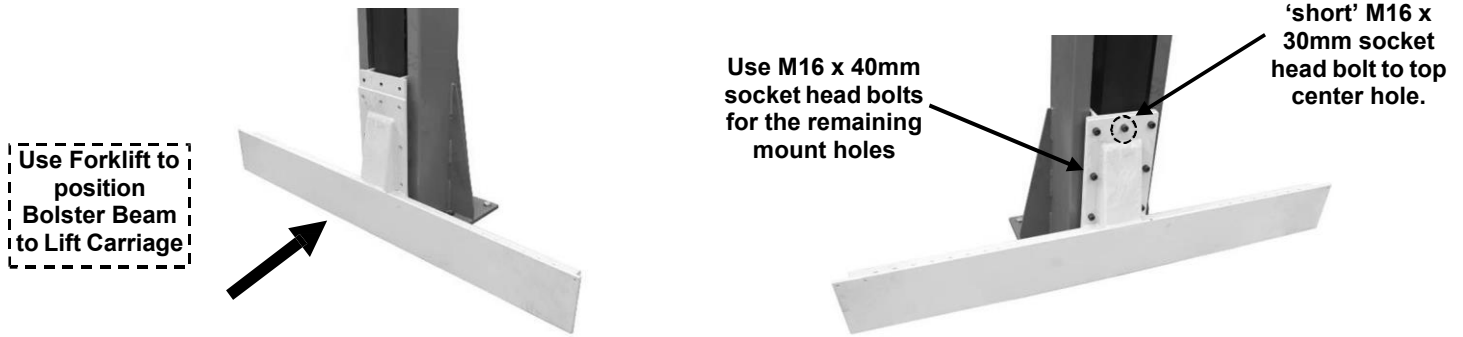

Fig. 5
- 1) Carefully position the **bolster beam** to **lift carriage** using a forklift or dolly. Align bolster beam's mount holes to the lift carriage holes. **First, use the 'shorter' M16 x 30mm socket head bolt, lock washer & flat washer to connect the 'top center' hole position on bolster beam & carriage**, which is required for proper chain clearance. **Fig. 5.** (Next Page)
- 2) For the remaining 6ea mount holes, use the 'longer' **M16 x 40mm socket head bolts, lock washers & flat washers** to finish connecting the bolster beam & carriage together. Ensure all bolts are securely tightened. **Fig. 5.**